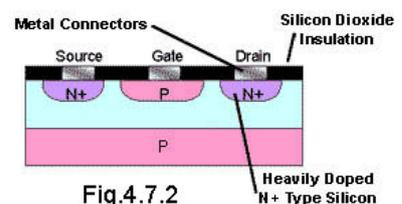

Fig.4.7.2
5. Which semiconductor device is illustrated in Fig.4.7.2?